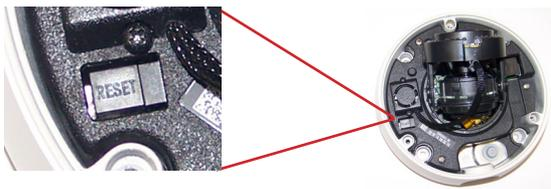

Figure 13.1
1. Press and hold the "Reset" button for 15 seconds as illustrated in Figure 13.1.